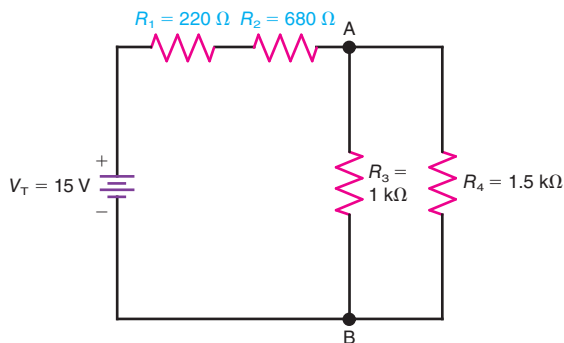

Figure 7-18
7.1 In Fig. 7-18, identify which components are in series and which ones are in parallel.
- 7.2 In Fig. 7-18,
- 7.3 In Fig. 7-18, solve for the following: I_1 , I_2 , V_1 , V_2 , V_3 , V_4 , I_3 , and I_4 .